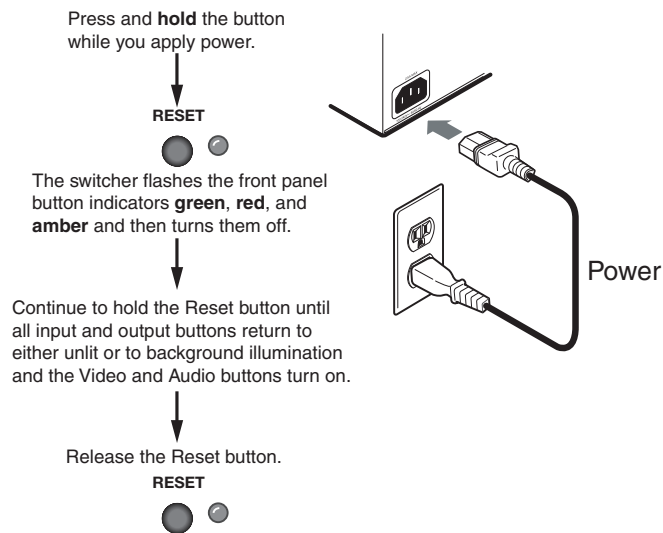

Figure 48. Hard Reset
2. Press and **hold** the **Reset** button on the rear panel **while** you apply AC power to the matrix switcher (see figure 48).